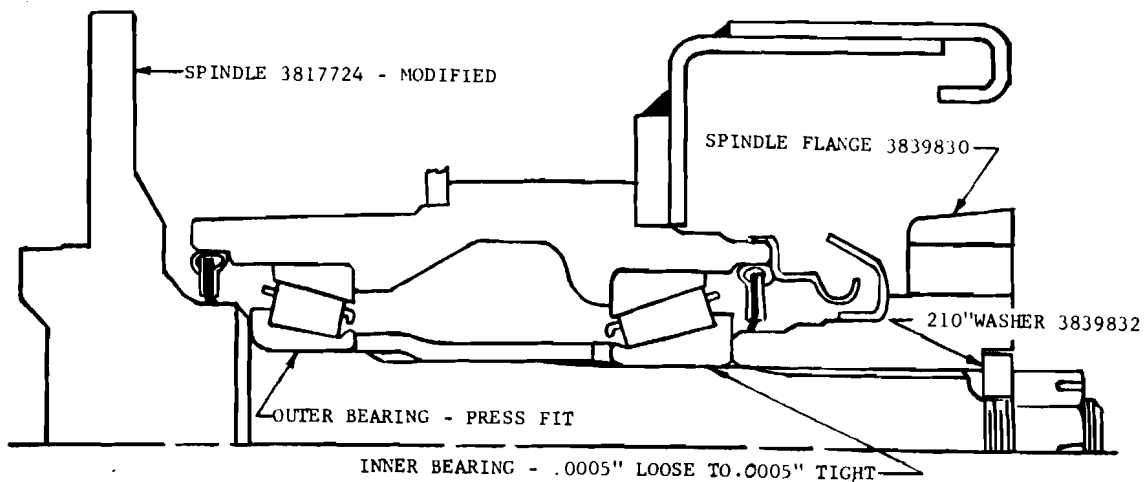

FIGURE 2
B - From November 2, 1962, to November 19, 1962 production, spindle 3817724 was revised to incorporate an interference fit outer bearing diameter and a .0005" loose to .0005" tight inner bearing diameter. A chamfer was added to the outer bearing shoulder to provide for tool access (Figure 2).
- C - Beginning with November 19, 1962 production, a .210" thick spindle flange washer 3839832 replaced with 140" thick spindle flange washer 3830252, and a new flange assembly 3839830 replaced the old flange assembly 3830253. Drive flange nut torque increased from 50 lb. - ft. to 100 lb. - ft. (Figure 2).
REAR WHEEL SPINDLE - DESIGN B AND C - FIGURE 2